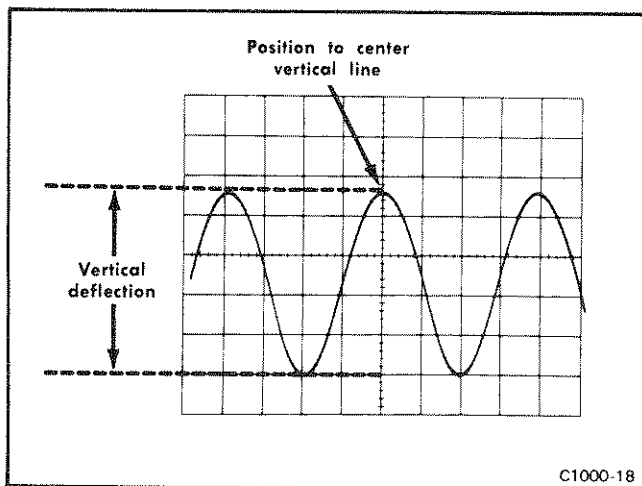

Fig. 1-2. Measuring peak-to-peak voltage of a waveform.
4. Turn the vertical Position control so that the lower portion of the waveform coincides with one of the graticule lines below the center horizontal line and the top of the waveform is in the viewing area. Move the display with the horizontal Position control so that one of the upper peaks is aligned with the center vertical reference line (see Fig. 1-2).